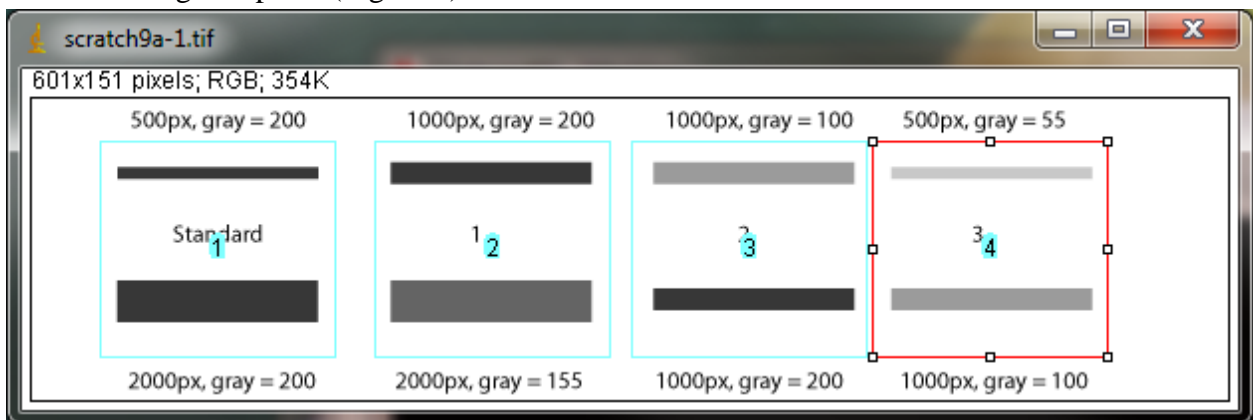
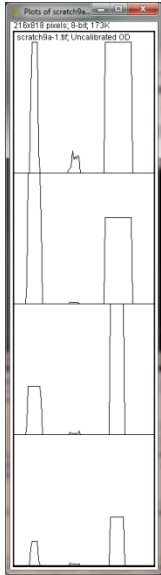

Figure 3. Place the rectangle over each lane, pressing 2 each time to set the rectangle in place.
Figure 4. The profile plot from the example western blot.
7. Repeat Steps 5 + 6 for each subsequent lane on the gel, pressing **2** each time to set the rectangle in place (Figure 3).
9. The profile plot represents the relative density of the contents of the rectangle over each lane. The rectangles are arranged top to bottom on the profile plot. In the example western blot image, the peaks in the profile plot (Figure 4) correspond to the dark bands in the original image (Figure 3). Because there were four lanes selected, there are four sections in the profile plot. Higher peaks represent darker bands. Wider peaks represent bands that cover a wider size range on the original gel.